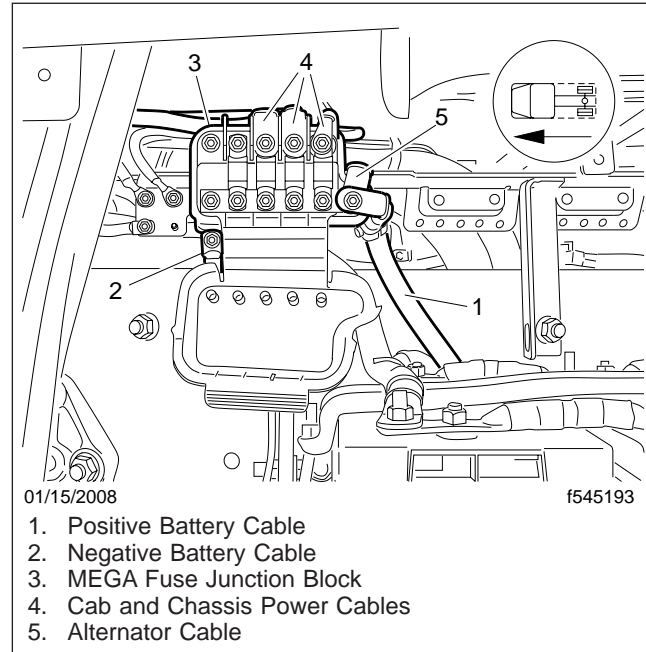

Fig. 3, MEGA Fuse Wiring (typical)
4. Replace each MEGA Fuse one at a time, as follows. See **Fig. 3**.